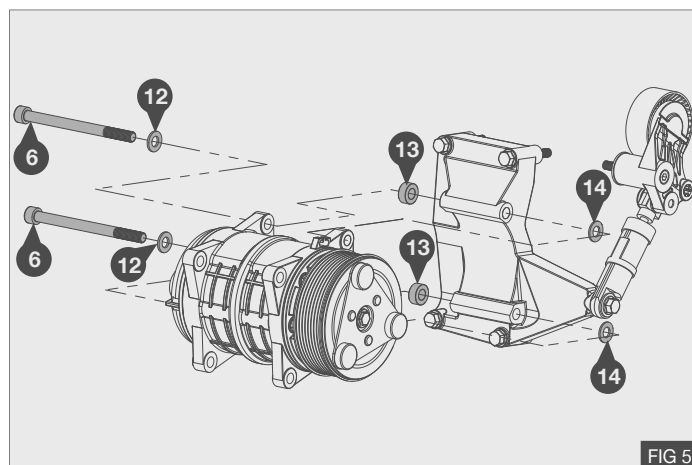

FIG 5
1. Install the compressor to the mount bracket (1) using M10 x 130 bolts (6) fitted with 2mm thick washers (12). Place the 8.4mm spacers (13) between the rear compressor ears and the bracket, Insert the 1.6mm spacers (14) between the front compressor ears and the mount bracket (See note below) – Fig 5